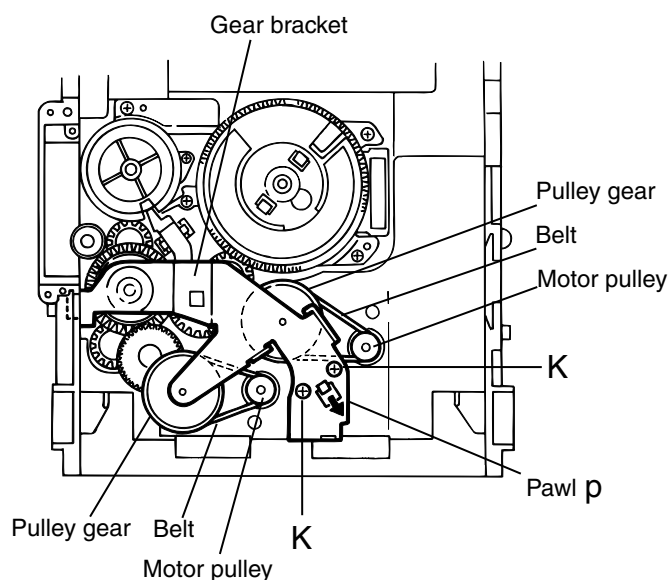

Fig.19
■ Removing the actuator motor and belt (See Fig.19~ 22)
(See Fig.19).
4. Remove the belts respectively from the right and left actuator motor pulleys and pulley gears(See Fig. 19).